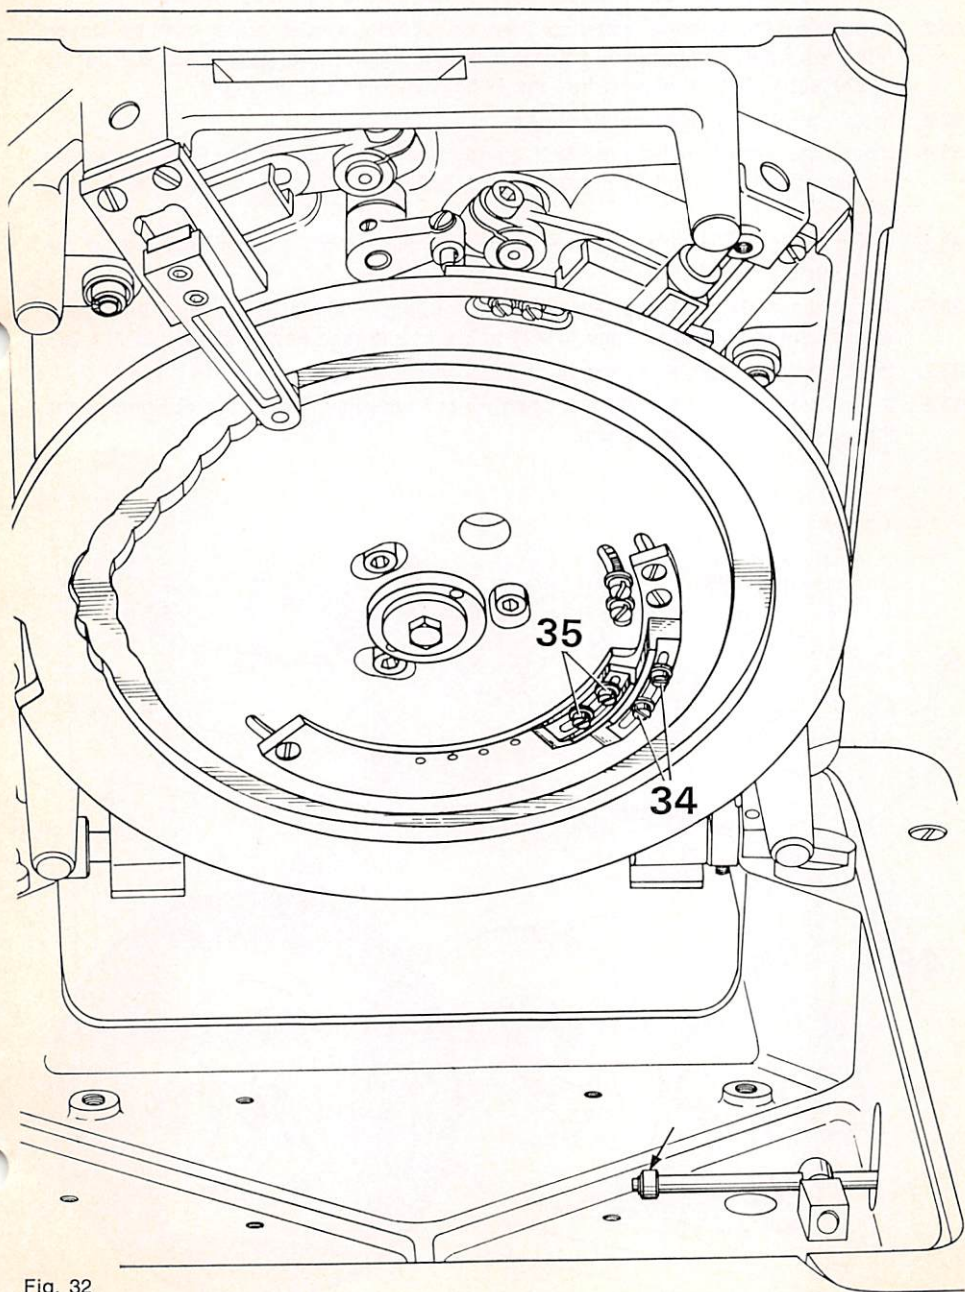

Fig. 32
**32. Timing the motor speed changes (Fig. 32)**